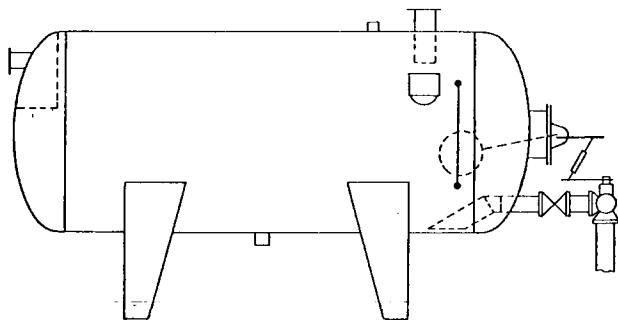

FIGURE 5
C. Three-phased with oil controlled by hydrostatic head valve such as C-E NATCO Diatroller or Kimray Type "W." Be sure to mount valve as low to ground as possible to use all hydrostatic head available. Use when wanting to remove gas, bypass treater direct to tank, etc. (see Figures 5 and 6).